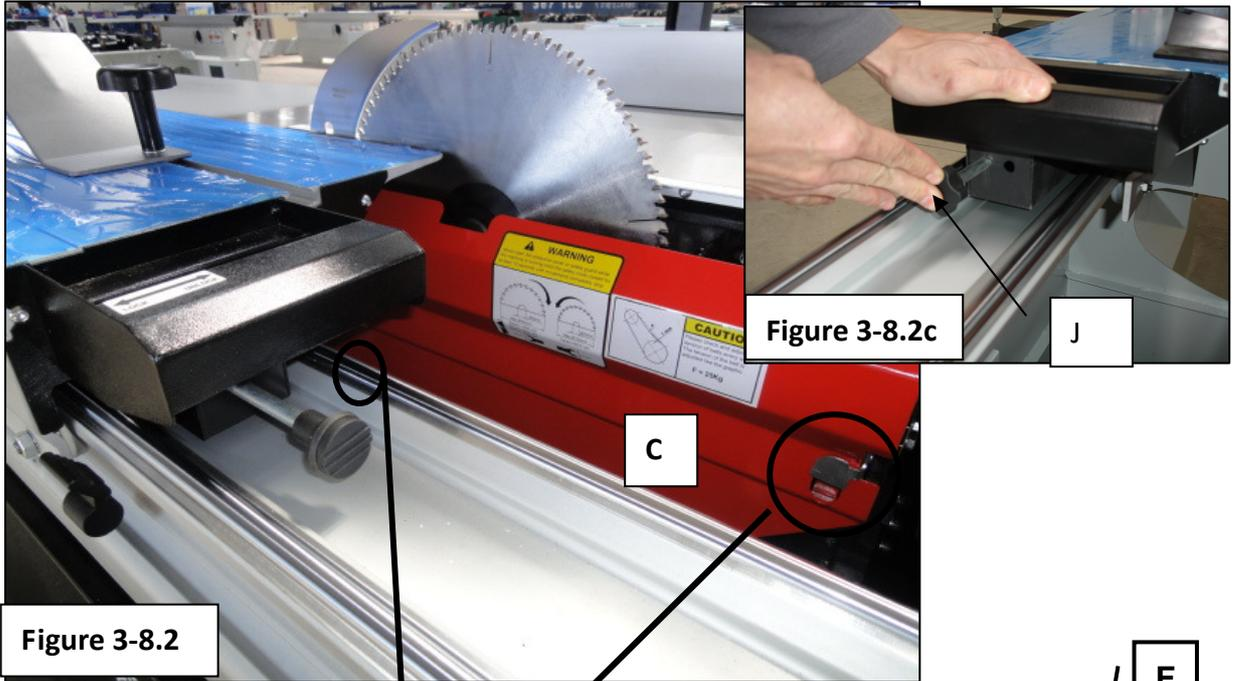

Figure 3-8.2
5. Open the blade protect guard -red cover **C** (Fig. 3-8.2) by pulling **D** (Fig. 3-8.2a) on both sides of it.